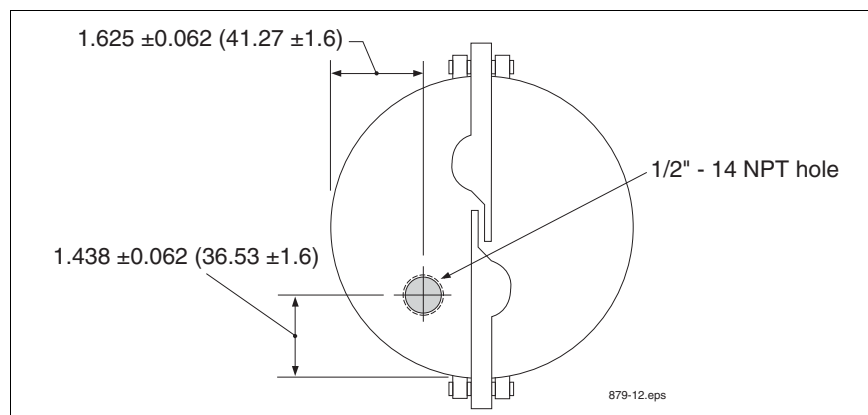

Figure 11. Modifying an existing metal riser cap
2. Drill and tap the cap for a 1/2"-14 NPT cord grip thread [Figure 11].